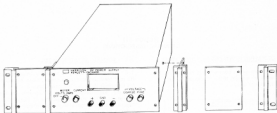

Figure 2-2. Rack Mounting, One Unit
a. Bolt rack mounting ears, combining straps, and angle brackets to each side of center spacing panels. Angle brackets are placed behind combining straps as shown in Figure 2-2.